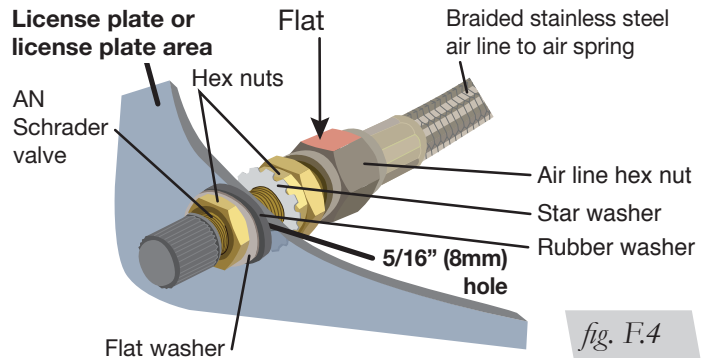

fig. F.4
2. Tighten the air line hex nut finger tight, then use 2 wrenches to turn 1 additional flat (1/6 of one full turn). **Do not overtighten** (Figs. F.4 or F.5). The easiest way to tighten the fitting is off the vehicle. Install the Schrader valve in the chosen location.